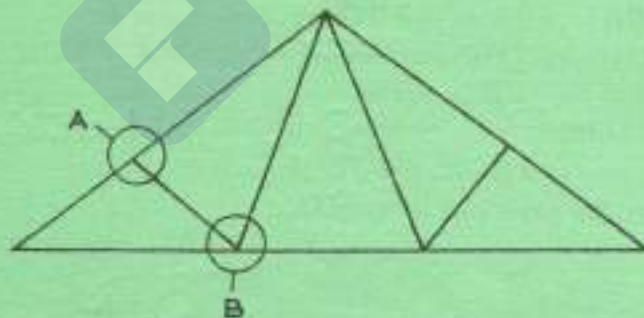

Fig. 1
3. (a) **Figure 1** shows a typical steel truss. Sketch the connection details at joint A and B. (8 marks)